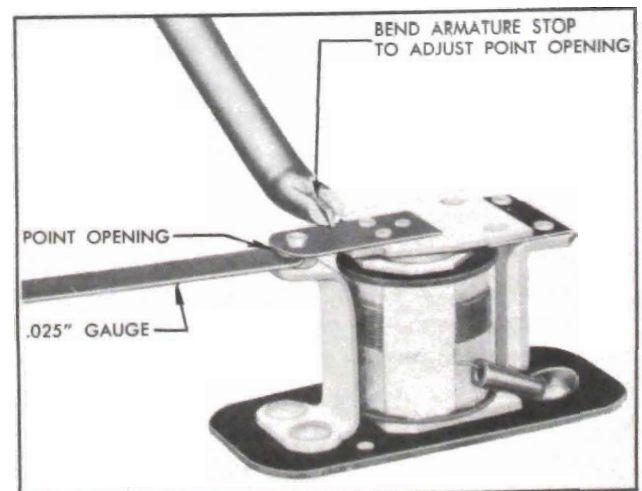

Figure 10-50—Relay Contact Point Adjustment
3. With armature free, check contact point opening, using .025" feeler gauge. Adjust point opening to .025", if necessary, by bending the upper armature stop. See figure 10-50.